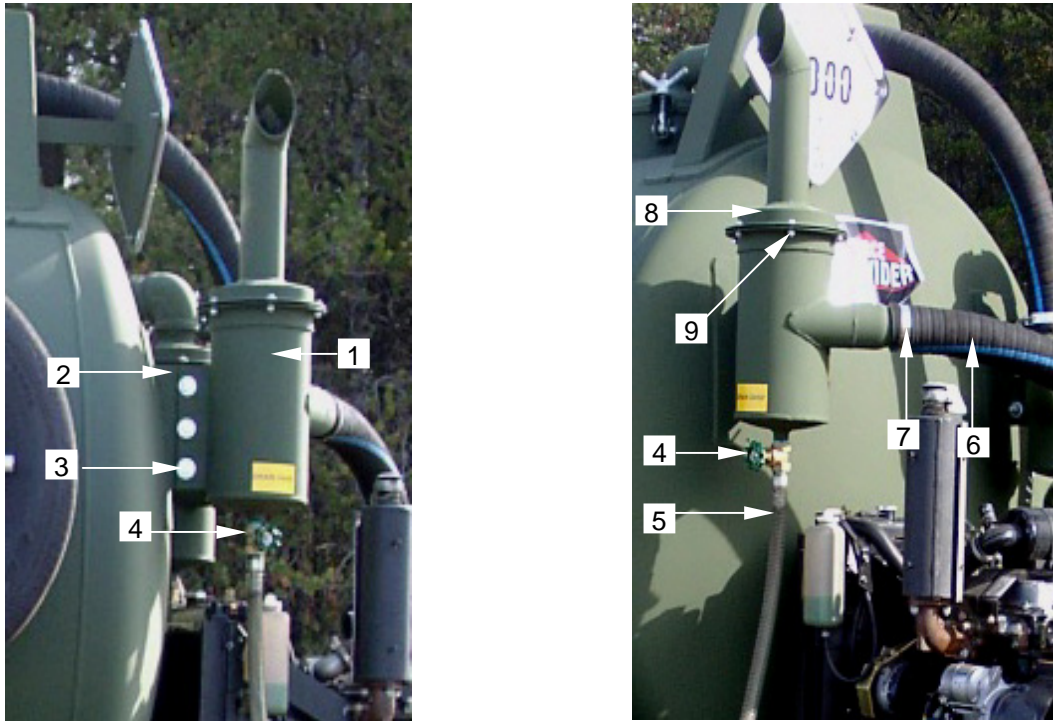

Figure 2. Oil Catch Muffler
1. Inspect the oil catch muffler housing (**figure 2, item 1**) for damage, and secure attachment to the tank bracket (**figure 2, item 2**). Report a damaged oil catch muffler housing to unit maintenance. Replace missing, or tighten loose bracket nuts and bolts (**figure 2, item 3**).
2. Visually inspect the drain valve (**figure 2, item 4**) for damage. Report a broken or bent drain valve to unit maintenance.
3. Determine the condition and secure attachment of the drain hose (**figure 2, item 5**). Replace a missing or damaged drain hose as required.
4. Inspect the condition of the breather hose (**figure 2, item 6**). Ensure hose clamps (**figure 2, item 7**) are tight. Report a damaged breather hose to unit maintenance. Tighten hose clamps as necessary.
5. Ensure oil catch muffler lid (**figure 2, item 8**) is securely fastened to the housing (**figure 2, item 1**) and attaching hardware is in place and tight (**figure 2, item 9**). Report a loose lid or missing hardware to unit maintenance.
- a. Open the drain valve (**figure 2, item 4**) and observe the amount of oil draining from the trap. The muffler will discharge oil as a normal part of its function. The amount will vary depending on how long the vacuum pump is in operation. Close valve after muffler is drained. Catch oil in an approved container and dispose of in accordance with local regulations and unit SOP.